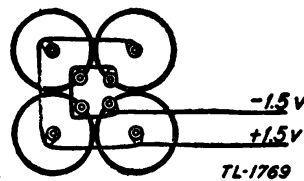

FIGURE 12.—Box BX-12, battery BA-23 connections.
(5) Place four batteries BA-23 in the middle compartment and connect them to the wires marked $+1.5V$ and $-1.5V$ as indicated in figure 12. Tighten the wing nut of the compartment to hold these batteries firmly in place.
(6) With their bases up, place three tubes VT-24 in the small felt pockets, one tube VT-50 in the large rear pocket, and one tube VT-25 in the remaining pocket of the left compartment. Wrap the spare lamp in a small piece of paper and place it in one of the pockets.
(7) Close the hinged front, tighten the thumbscrews with their collars in place, and close the hinged cover.
(8) Remove the four hexagonal nuts and washers from the top of the frame, and place the box on the frame in its proper position, being sure that the wire W-124 from the transmitter to the control box is